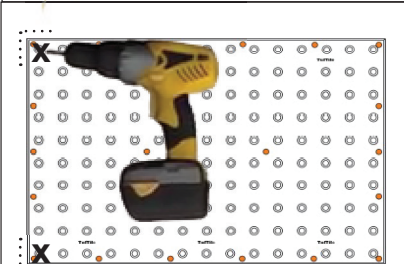

Fig. 3
5. Replace the panel onto the prepared concrete and drill 2" (miminum) deep holes through the spots in the panel at the marked corners. **(Figure 3)**